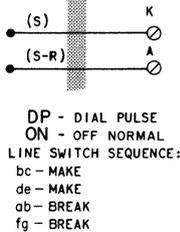

Fig. 1—511C/D (MD) Telephone Set, Connections
1.01 Reissued to add nontechnical changes to Fig. 1.
1.01 Reissued to add nontechnical changes to Fig. 1, 2, and Table A.